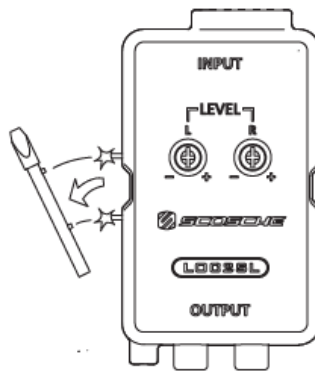

FIGURE 2
1. Carefully break away the screwdriver tool from the side of the LOC2SL case (Figure 2).